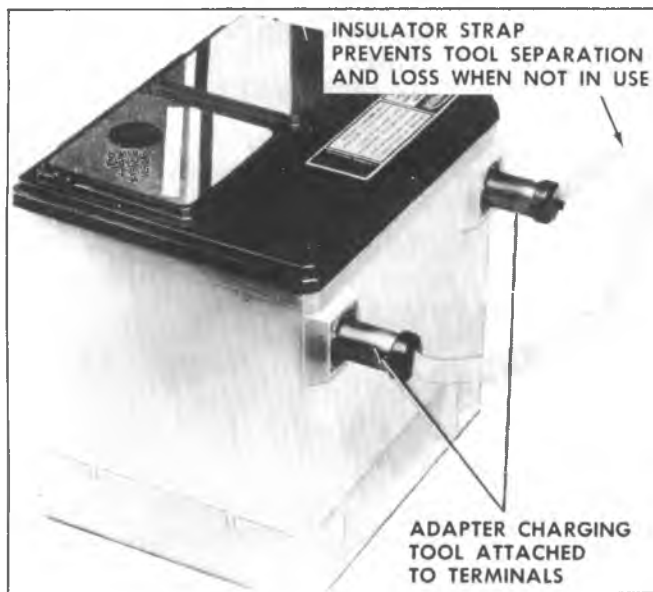

Fig. 6D-3B--Side Terminal Battery Adapters
c. Wait 15 seconds to let battery recover and apply specified load. Read voltage after 15 seconds with specified load applied (see Fig. 6D-4B), then disconnect load.
d. If voltage does not drop below the minimum listed in Fig. 6D-5B, the battery is good and should be returned to service. (The battery temperature must be estimated by